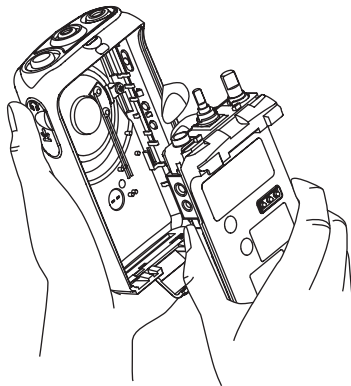

Figure 2-13
10. Place the diecast into the front housing (see “Figure 2-13”).